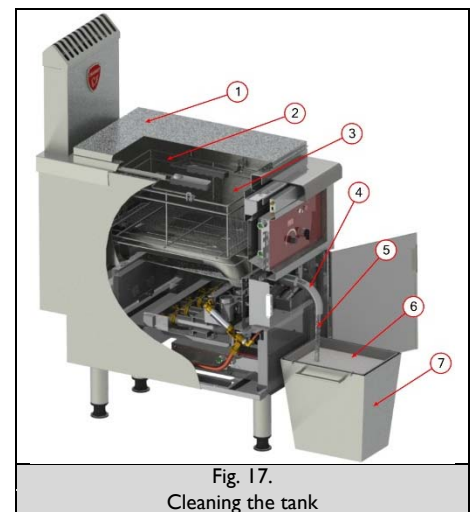

Fig. 17.
- Remove the lid (Fig. 17 – Mark 1)
- Remove the fryer basket(s) (Fig. 17 – Mark 2)
After each period of use it is recommended to let settle the water and partially drain. Place a collection bucket under the drain tap and partially open the drain tap (Fig. 17. – Mark 4) until the oil starts to run out.